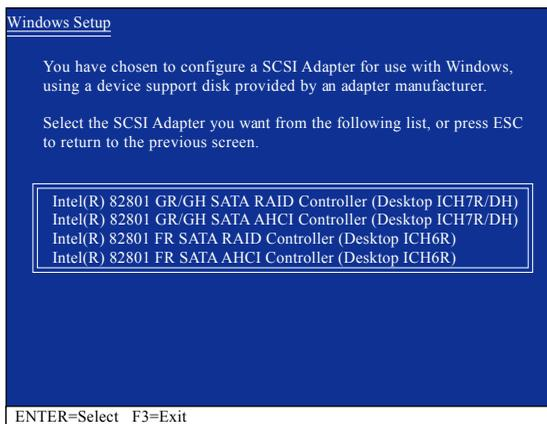

Figure 17
Use the ARROW keys on your keyboard to select **Intel(R) 82801 GR/GH SATA RAID Controller (Desktop ICH7R/DH)*** (Figure 17) and press ENTER. Then the system will load the SATA driver from the floppy disk.